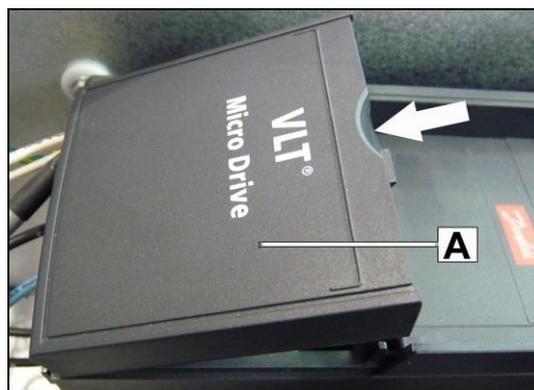

Fig. 3.35
6. Remove the cover **A** protecting the inverter connection terminals (Fig. 3.35).